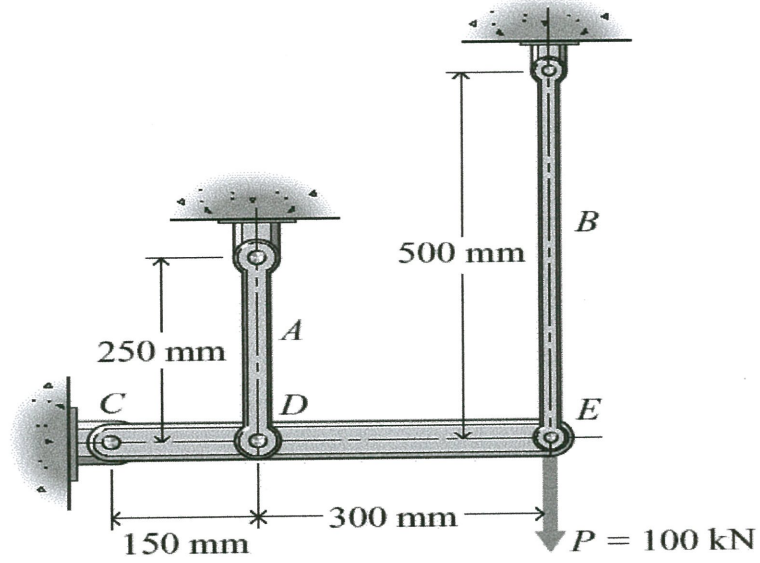

Figure Q5
- Q5.** A pin connected structure is loaded and supported as shown in **Figure Q5**. Bar *CDE* is to be considered rigid. Bar *A* is made of hardened carbon steel with a modulus of elasticity of 210 GPa, a cross sectional area of 1200 mm² and $\alpha=11.9 \times 10^{-6}/^{\circ}\text{C}$. Member *B* is a structural aluminium alloy bar with a modulus elasticity of 70 GPa, a cross sectional area of 300 mm² and $\alpha=22.5 \times 10^{-6}/^{\circ}\text{C}$. When the system is unloaded at 40°C, bars *A* and *B* are unstressed. After the load *P* is applied, the temperature of both bars decreases to 15°C. Determine the normal stresses in bars *A* and *B*. Then calculate the vertical component of the displacement of pin *E*.